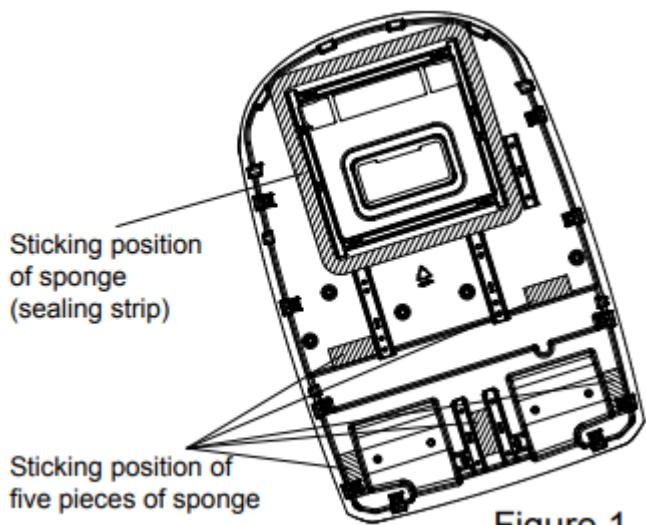

Figure 1
1. Before sticking, clean up the sundries at the sticking position (as shown in Figure 1) of the chassis of the outdoor unit to ensure that the sticking position is clean;
2. Take out one piece of sponge (sealing strip) and five pieces of sponge from the accessories, and tear off the paper on the glue surface and align at the edge of the position as shown in Figure 1 to stick the sponge. If the sponge (sealing strip) is damaged or not stuck on the proper position, you must replace it with a new one and stick it properly;